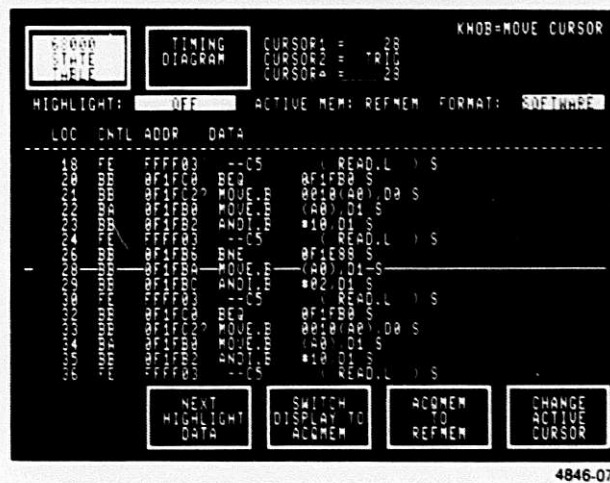

Figure 7. **SOFTWARE** format suppresses **READ.EXT** cycles.
**SOFTWARE.** This display format is designed to look like a source code listing and thus simplify analysis of the program flow. It is similar to **HARDWARE** except that **READ.EXT** cycles are not shown and all non-microprocessor data is suppressed (i.e. T1 data and T2 data from other groups, if there are any, is suppressed). Look at Figure 7.
Because the 68010 prefetches code into its pipeline, data transfers frequently will not be associated with the instruction immediately preceding them, but rather with a previous instruction. For example, in Figure 7 the data transfer at LOC 30 was caused by the execution of the instruction at LOC 28 rather than the one at 29.